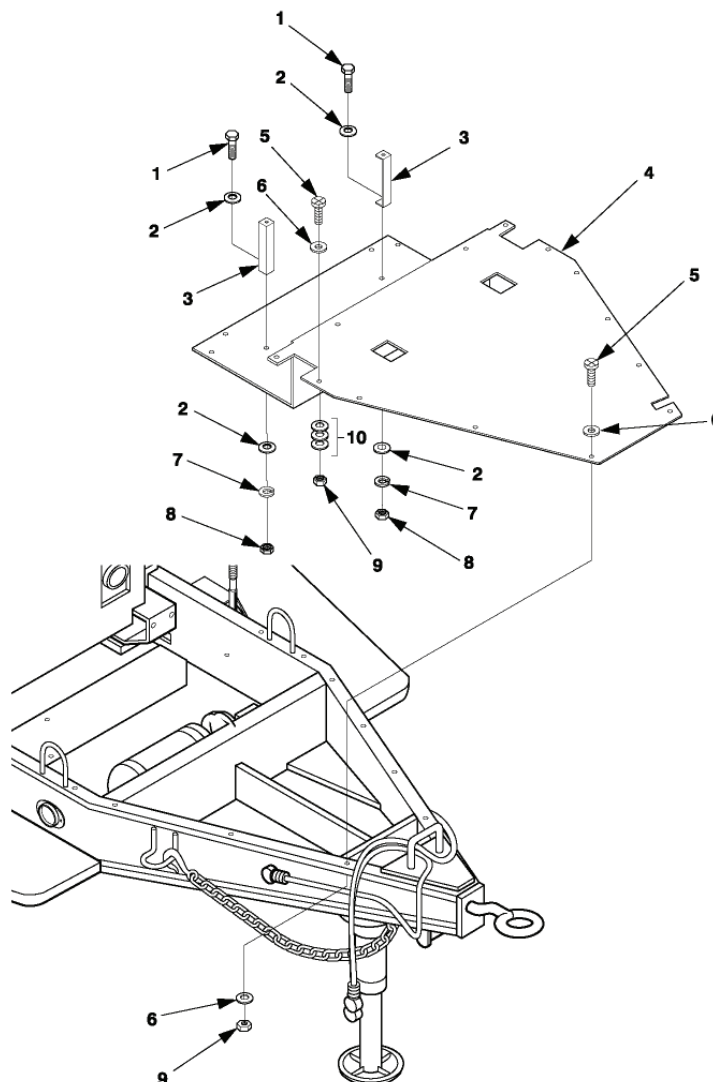

Figure 4-23. Front Platform Replacement , 2 ½ Ton Trailer (Older Model)
- a. When removing front platform (4, figure 4-23) on Unit A, refer to paragraph 4-12.1 and remove switch box.
- b. To remove switch box supports (3) from the older model platform, remove hex nuts (8), flat washers (2), lock washers (7), and cap screws (1) which secure switch box supports (3). Discard lock washers (7).
- c. To remove the platform from the trailer, remove self-locking nuts (9), flat washers (6 and 10), and cap screws (5) which secure the platform (4) to trailer. Discard self-locking nuts (9).
- b. Remove hex nuts (4, figure 4-23), flat washers (3), lock washers (5), and cap screws (2). Discard lock washers (5).
- c. To remove the platform from trailer, remove hex nuts (4), flat washers (3), lock washers (5), and cap screws (2), which secure new platform (1) to trailer. Discard lock washers (5).
This platform (figure 4-23) is used with power plants equipped with older model switch boxes.